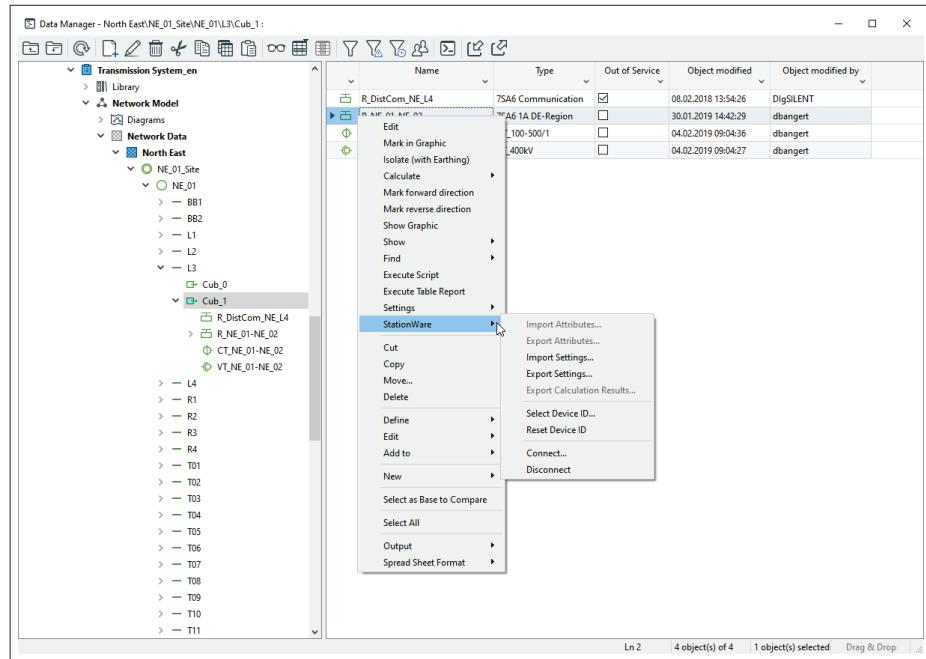

Figure 24.16.20: Device context menu
- in the Data Manager as shown in Figure 24.16.20.